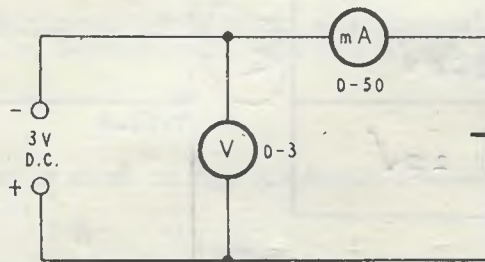

FIG. 1.
STEP 1: Connect the circuit as shown in Fig. 1.